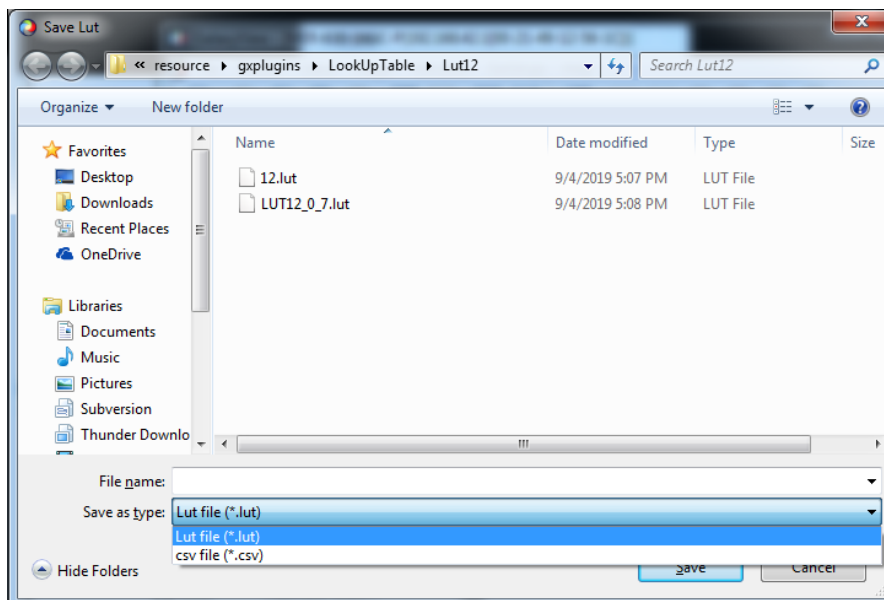

Figure 9-6 Save to file
1. When selecting "Save To File", the current Lut data can be saved to the file. The saved file contains two formats: Lut and csv, as shown in Figure 9-6: